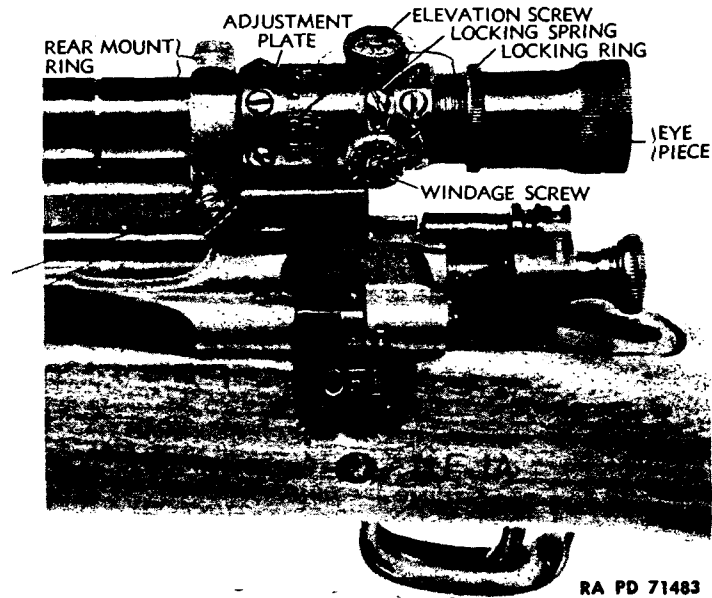

Figure 7 — Weaver Telescopic Sight No. 330 C — Showing Adjustments
(3) A knurled knob forms the head of the elevation and windage screws (fig. 7). The outside diameter of the knobs is divided into sixty $\frac{1}{4}$ -minute click notches. The screws are held in adjustment by a click spring screwed to the adjustment plate and engaging with the click notches. The faces of the knobs are divided into fifteen divisions, each of which represents four $\frac{1}{4}$ -minute clicks. Arrows stamped on the knobs indicate the direction in which the screws must be turned to elevate the point of impact of the bullet ("UP"), or move it to the left ("L") for windage correction. To lower the point of impact, or move it to the right, the screws must be turned in the opposite direction to that in which the arrow points.
c. Windage Adjustment (fig. 7).
(1) Adjust the sight for zero windage as follows:
d. Elevation Adjustment (fig. 7).
(1) Adjust the elevation screw for 100 yards range as follows: